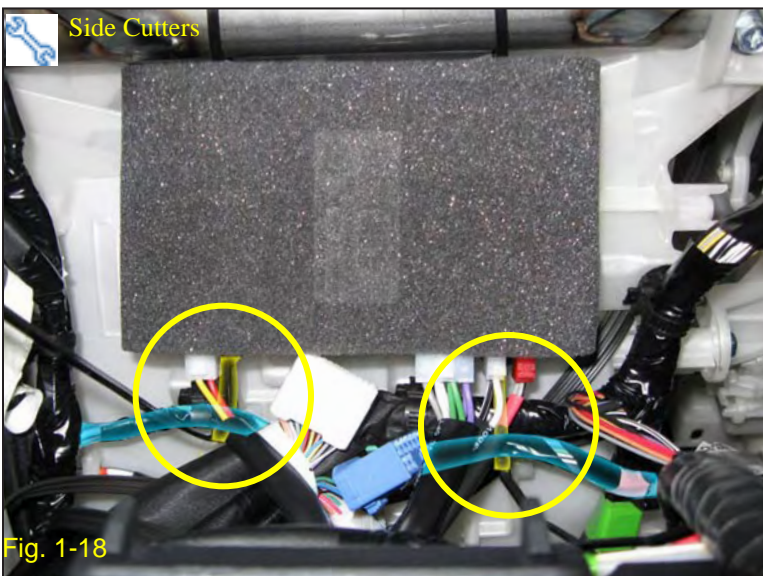

Fig. 1-18
4. After all module connections are connected, secure module with two (2) additional wire ties at the bottom to the existing wire loom (Fig. 1-18).
5. Tighten up all four (4) wire ties.